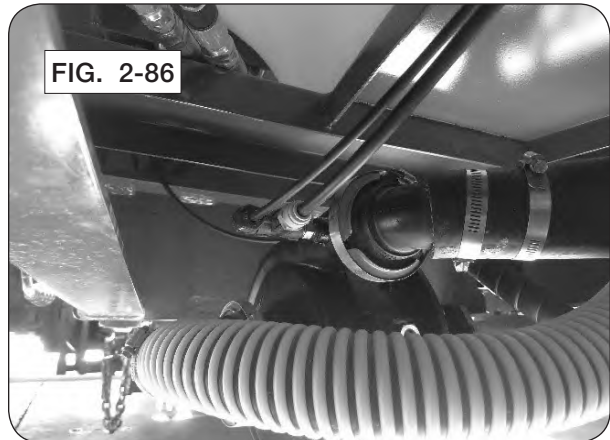

FIG. 2-86
4. Install the inlet and outlet hoses onto the pump flanges. Install the 1/4" gauge tubing (pressure gauge) and 3/8" gauge tubing (primer lines) into the fittings near the outlet of the pump. (FIG. 2-86)